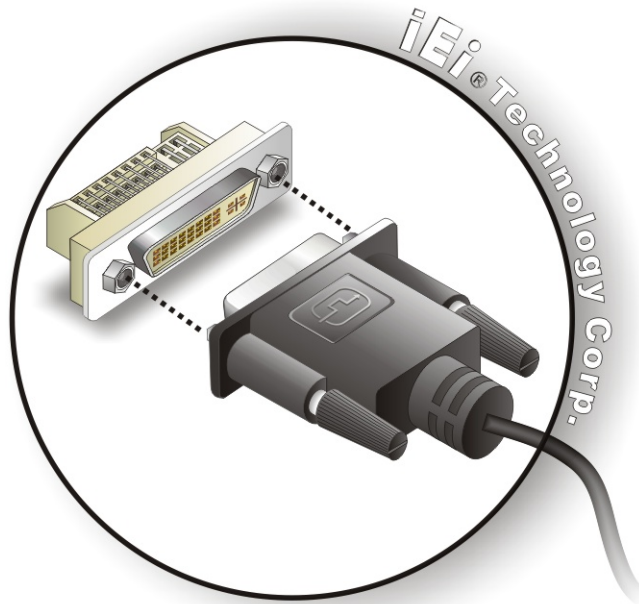

Figure 3-16: DVI Connector
Step 3: Insert the DVI-I connector Once the connectors are properly aligned with the male connector, insert the male connector from the digital display device into the female connector on the ECN-581A-QM57. See Figure 3-16.